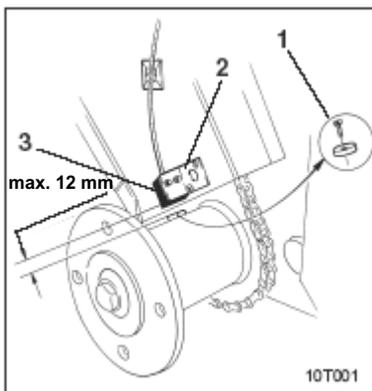

Fig. 9.3
- Magnet (Fig. 9.3/1)
(Fig. 9.3/2, Order no.:
"HA" (Fig. 9.3/3) next
(Fig. 9.3/1).